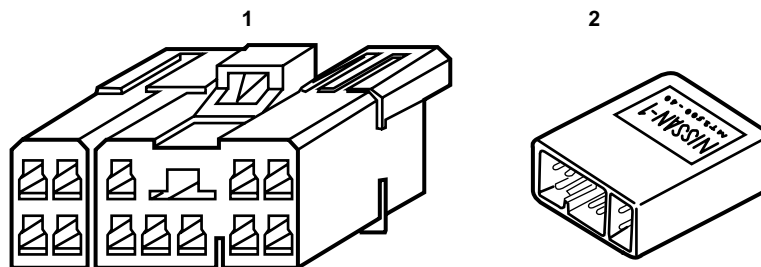
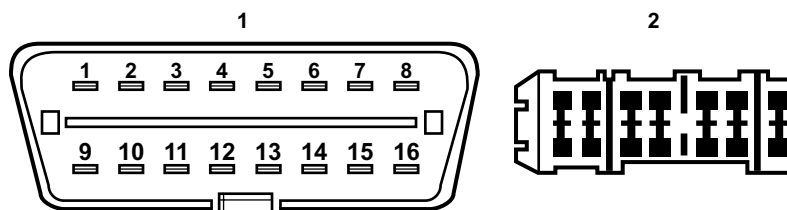

Figure 14-1 Vehicle diagnostic connector
Figure 14-2 Nissan diagnostic connectors
Figure 14-1 and Figure 14-2 on page 154 show Nissan and Infiniti diagnostic connector locations and adapter information for reading engine codes.
1. Connect the molded adapter to the connector shown in Figure 14-1 and Figure 14-2 on page 154, which may be in the following locations: